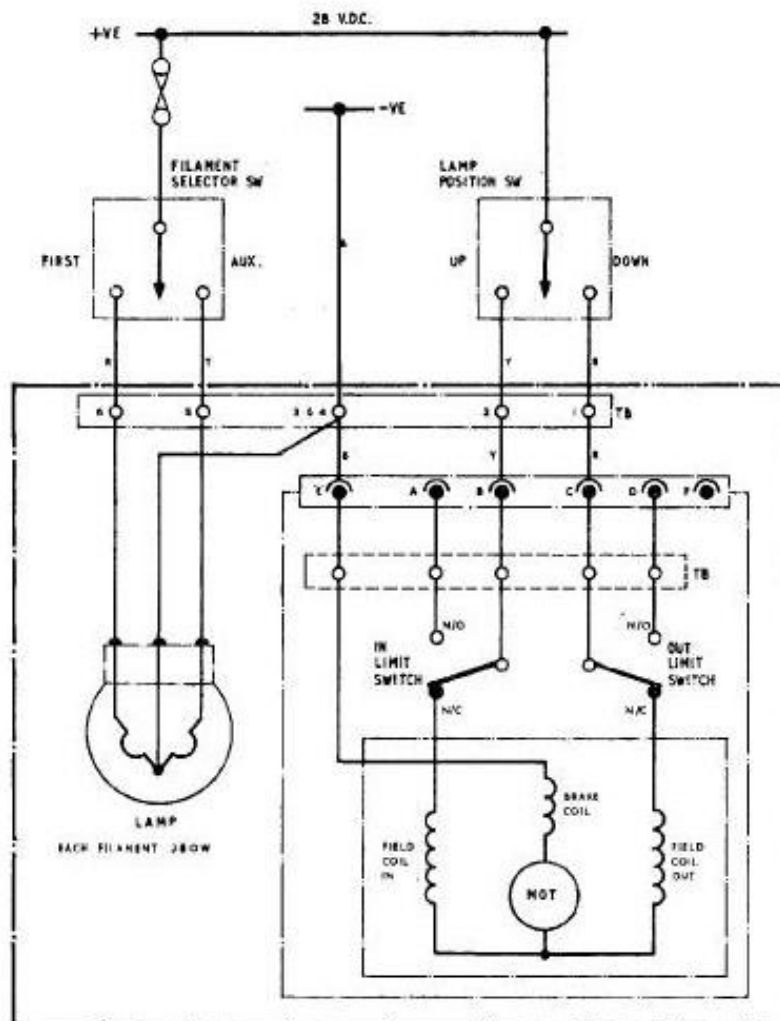

Fig. 2. Circuit Diagram
9. The filaments and actuator are supplied from a 28 volt d.c. source. The filament lamp is controlled by a centre-off two way switch which permits selection of the main or auxiliary filaments for landing and taxiing. The actuator is controlled by a two way, ON-ON switch, selecting either extend or retract. Connection to the lamp is by ring or eye type 4 B.A. cable-ends to a Plessey, Type F terminal block, and is extended from the terminal block to the filament lamp and actuator by two flexible cables. The flexible cable to the actuator terminates in a miniature Mk. 4, 6 pole socket (Ref. No. 10H/Z560080) which connects to the fixed plug on the actuator. A circuit diagram is given in fig. 2.